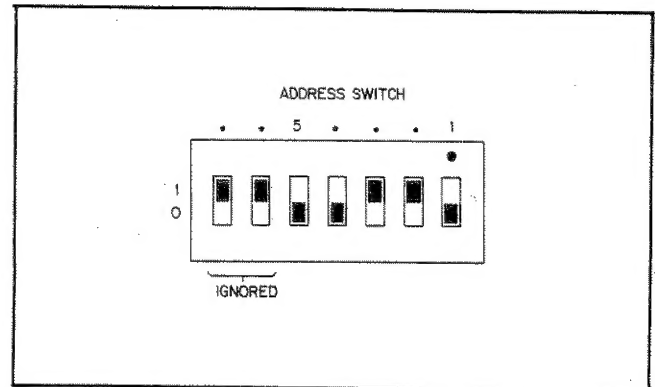

Figure 2-4. Listen Address Switches on Rear of 59501B
2-23 The listen address for the 59501B is selected by address switches on the rear of the unit. The switches are factory set to the suggested listen address of & when the unit is shipped from the factory. As shown in Figure 2-4, there are seven address switches. The last two switches, 6 and 7 (XX), are ignored (have no affect). Switches 1, 4, and 5 are set to "0" and switches 2 and 3 are set to "1" to select a listen address of "&". Note that "&" is the suggested listen address and is one of 31 listen address possibilities. The address switch settings for each of the 31 listen address possibilities are listed in Table 2-1.